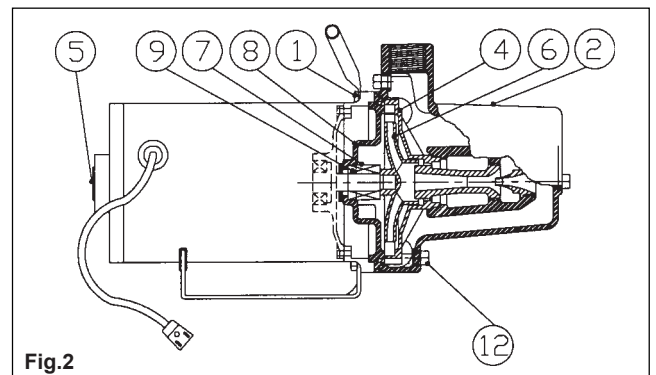

Fig.2
c) **Replacing Mechanical Seal: (See Fig. 2)**